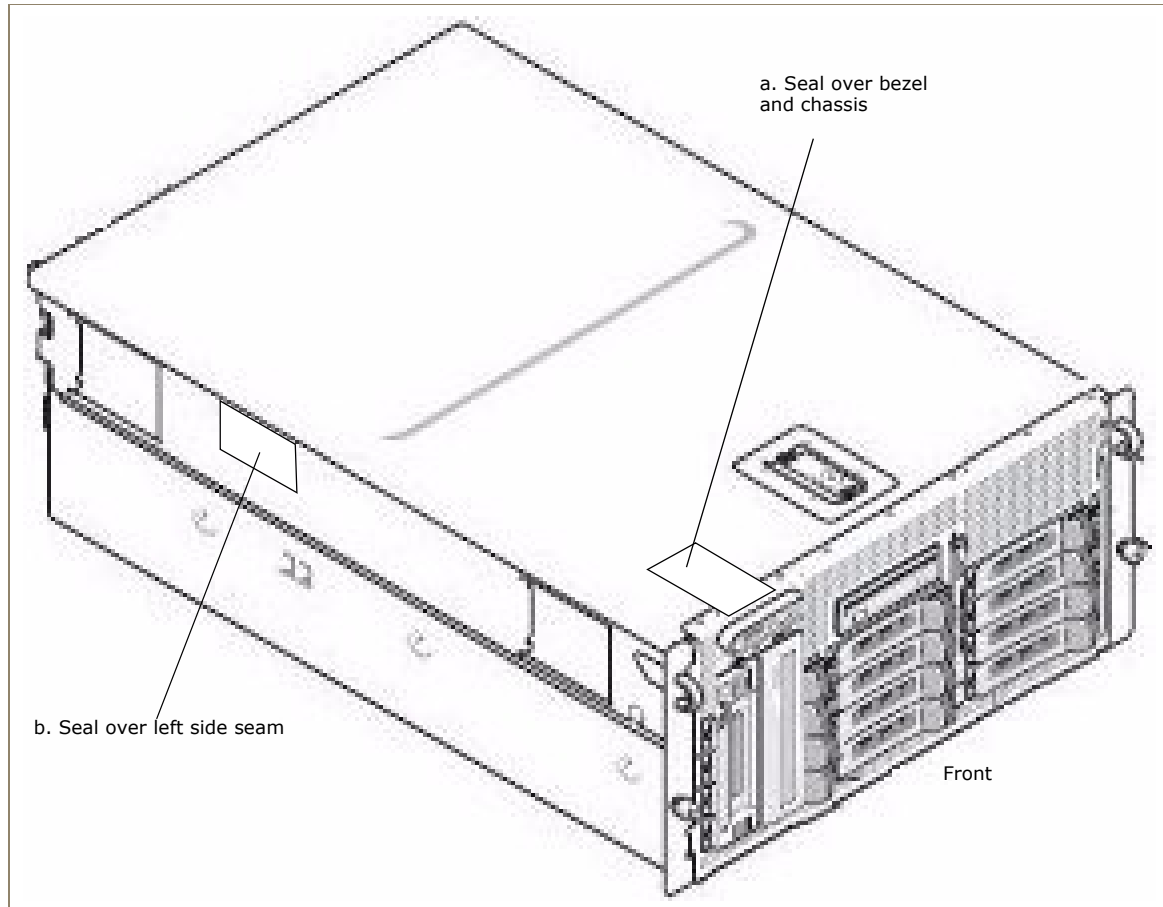

Figure 2-14 Top view of model 4150E (bezel not shown)
- 2 Attach tamper-evident seals to the cover of the chassis (see Figure 2-14).